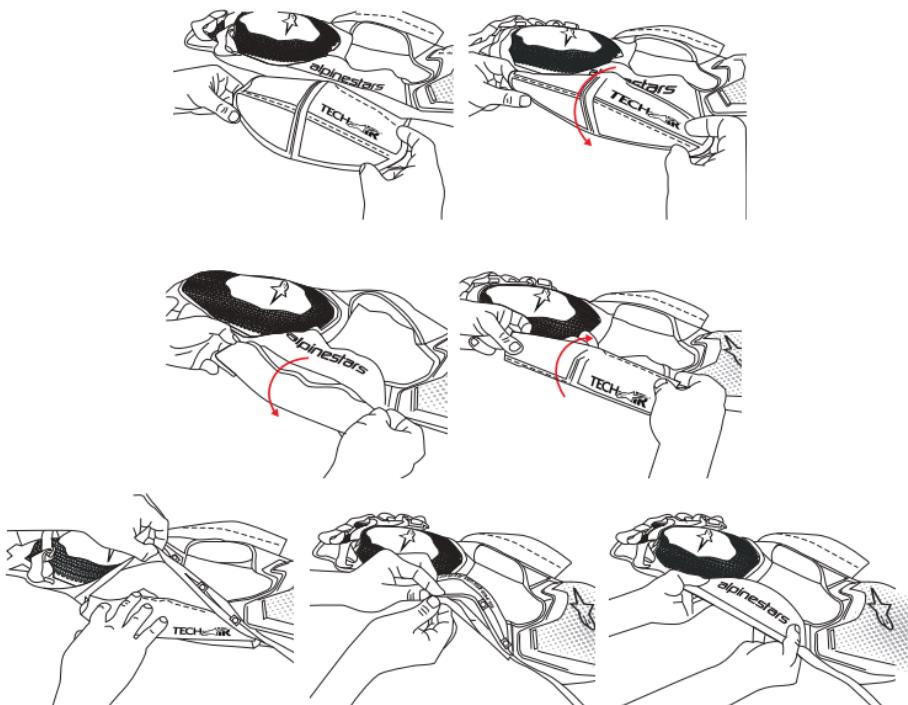

Figure 21: How to fold the airbag of the shoulder area
After each deployment of the System, the User must correctly position the Airbag (11) in the shoulder area by following the instructions printed directly on the Airbag (11). The process consists of the following steps (depicted in Figure 21):
- 1) Following the dashed lines, fold the Airbag (11) twice downward ("FOLD UNDER") and once upward ("FOLD OVER"). At this stage, the Tech-Air® logo should be clearly visible on the upper part of the Airbag (11);
- 2) Neatly insert the folded Airbag (11) into the opening present in the System's shoulder straps.
- 3) Secure the fastening buttons on the opening and ensure the Airbag (11) is free of wrinkles or creases.